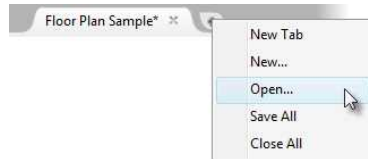

FIGURE 1.13: Using the File Tab interface to open additional drawings
1. Start or open two or more AutoCAD files. Right-clicking any drawing tab or the plus icon at the end of the interface, as shown in Figure 1.13, will allow you to open additional files.